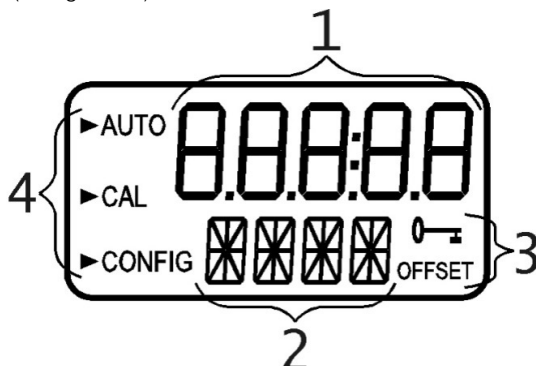

Figure 1: Display used in the instrument
Figure 1 illustrates all the items that can appear on the display. The upper row of the display (1) is used for reporting the chlorine levels and to provide user guidance in the customer setting routine. The lower row of the display (2) is used to communicate error messages (message queue) and provide user guidance. The display has two icons (3) that are used to indicate the use of access code and offset mode. In addition, mode arrows (4) are used to indicate the current instrument operating mode; AUTO (normal operation), CAL (calibration) and CONFIG (configuration).